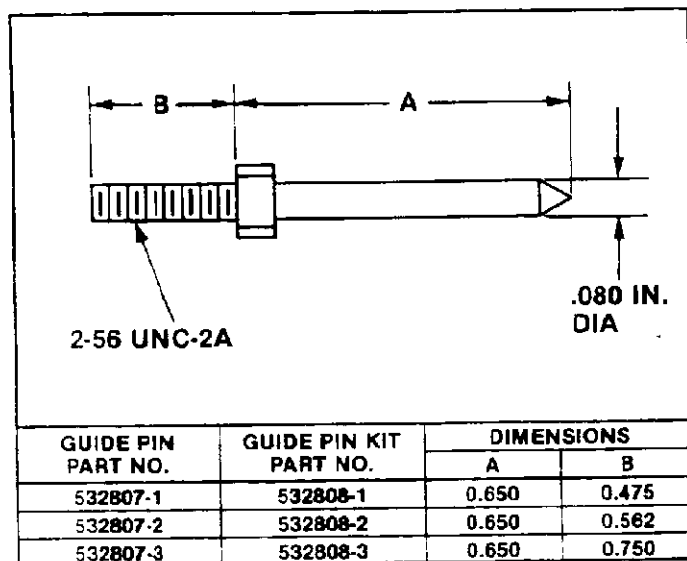
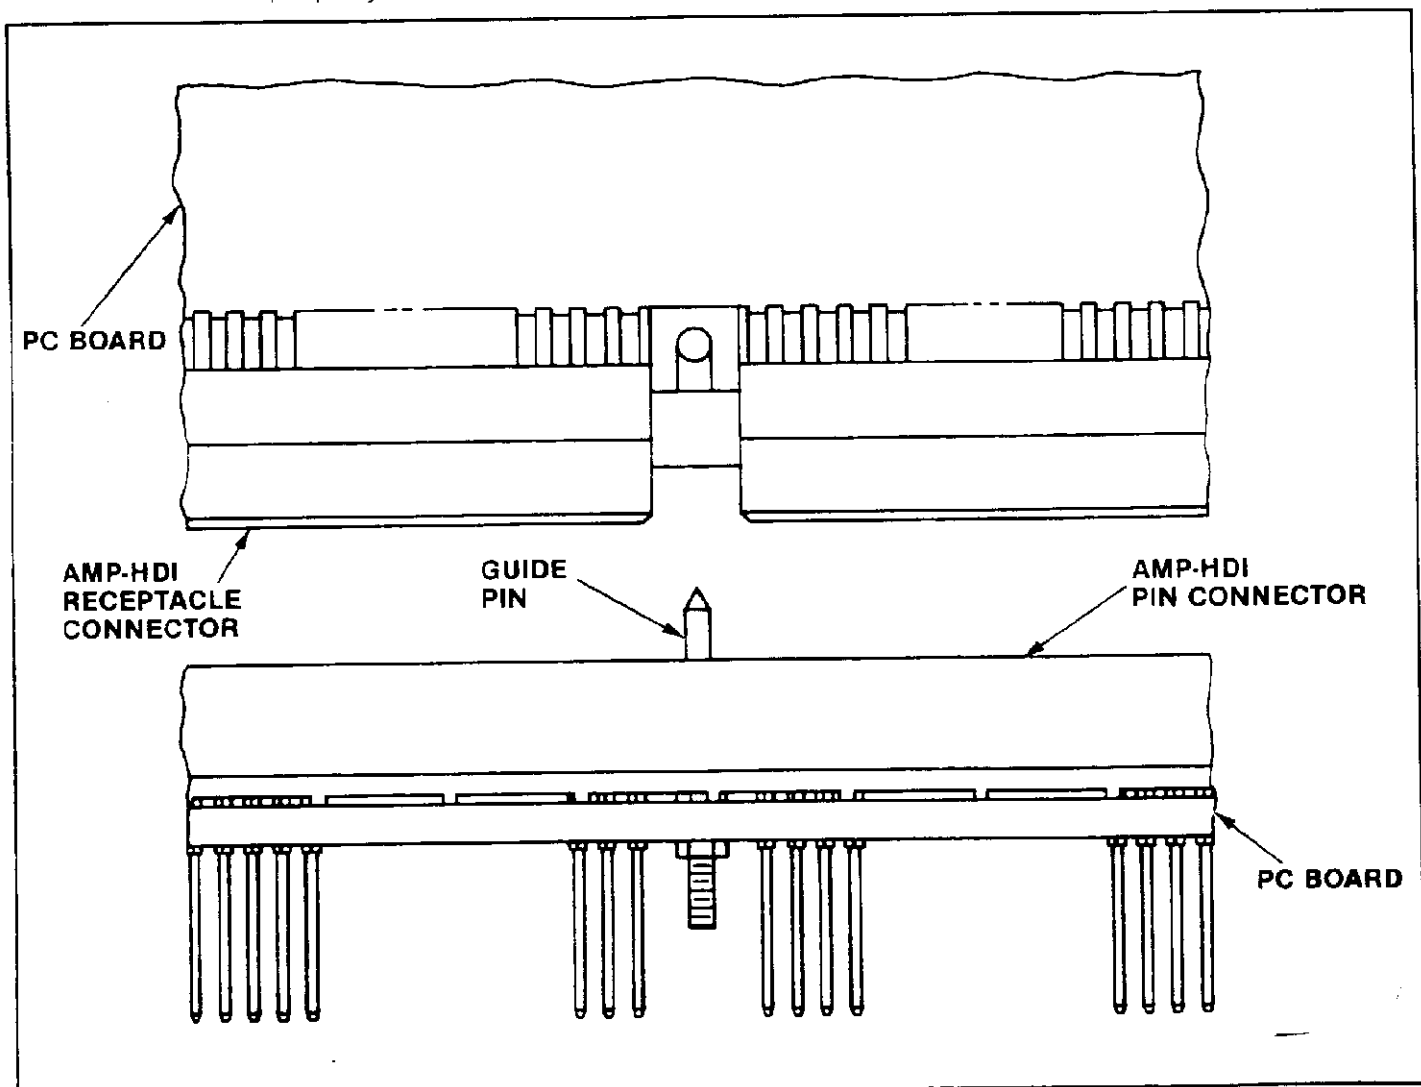

Fig. 6
Fig. 7
This instruction sheet (IS) covers the selection and assembly of AMP-HDI Connector Jackscrew Hardware Kits, Guide Pins, and Guide Pin Kits. The jack-screw hardware kits are listed by part number in Figure 1; the guide pins and guide pin kits are listed by part number in Figure 6.
Part numbers of pins and kits are listed in Figure 6.
Guide pins are assembled to AMP-HDI pin connectors after the connectors have been secured to the pc board. See Figure 7. Selection of the correct pin or guide pin kit will depend on the pc board thickness. Refer to Figure 6.